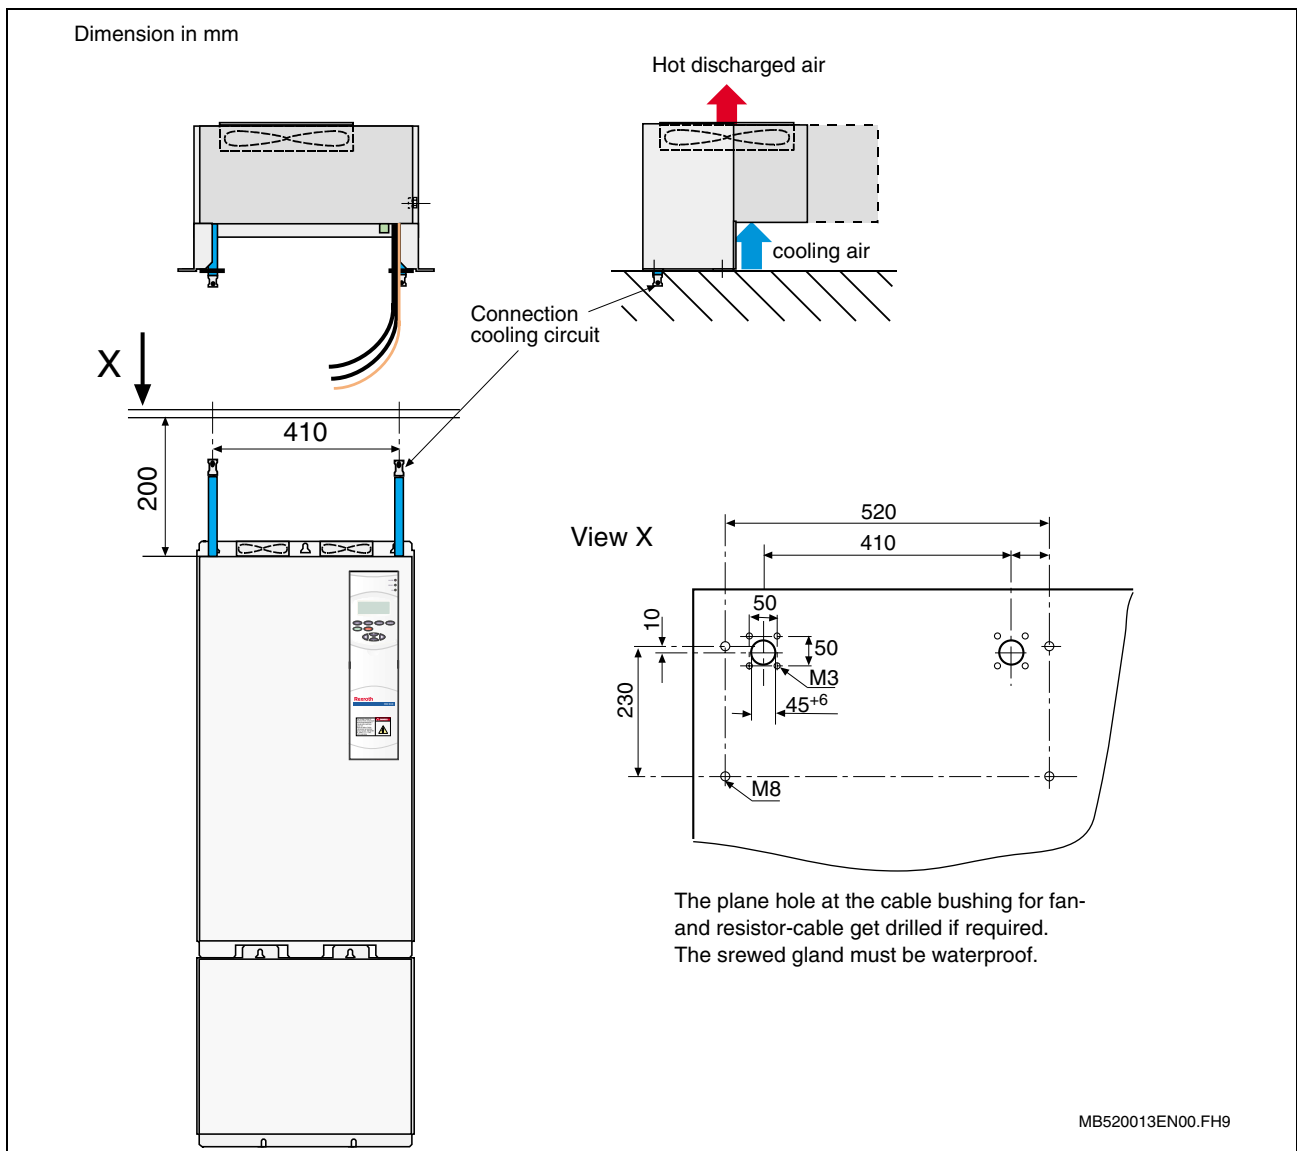
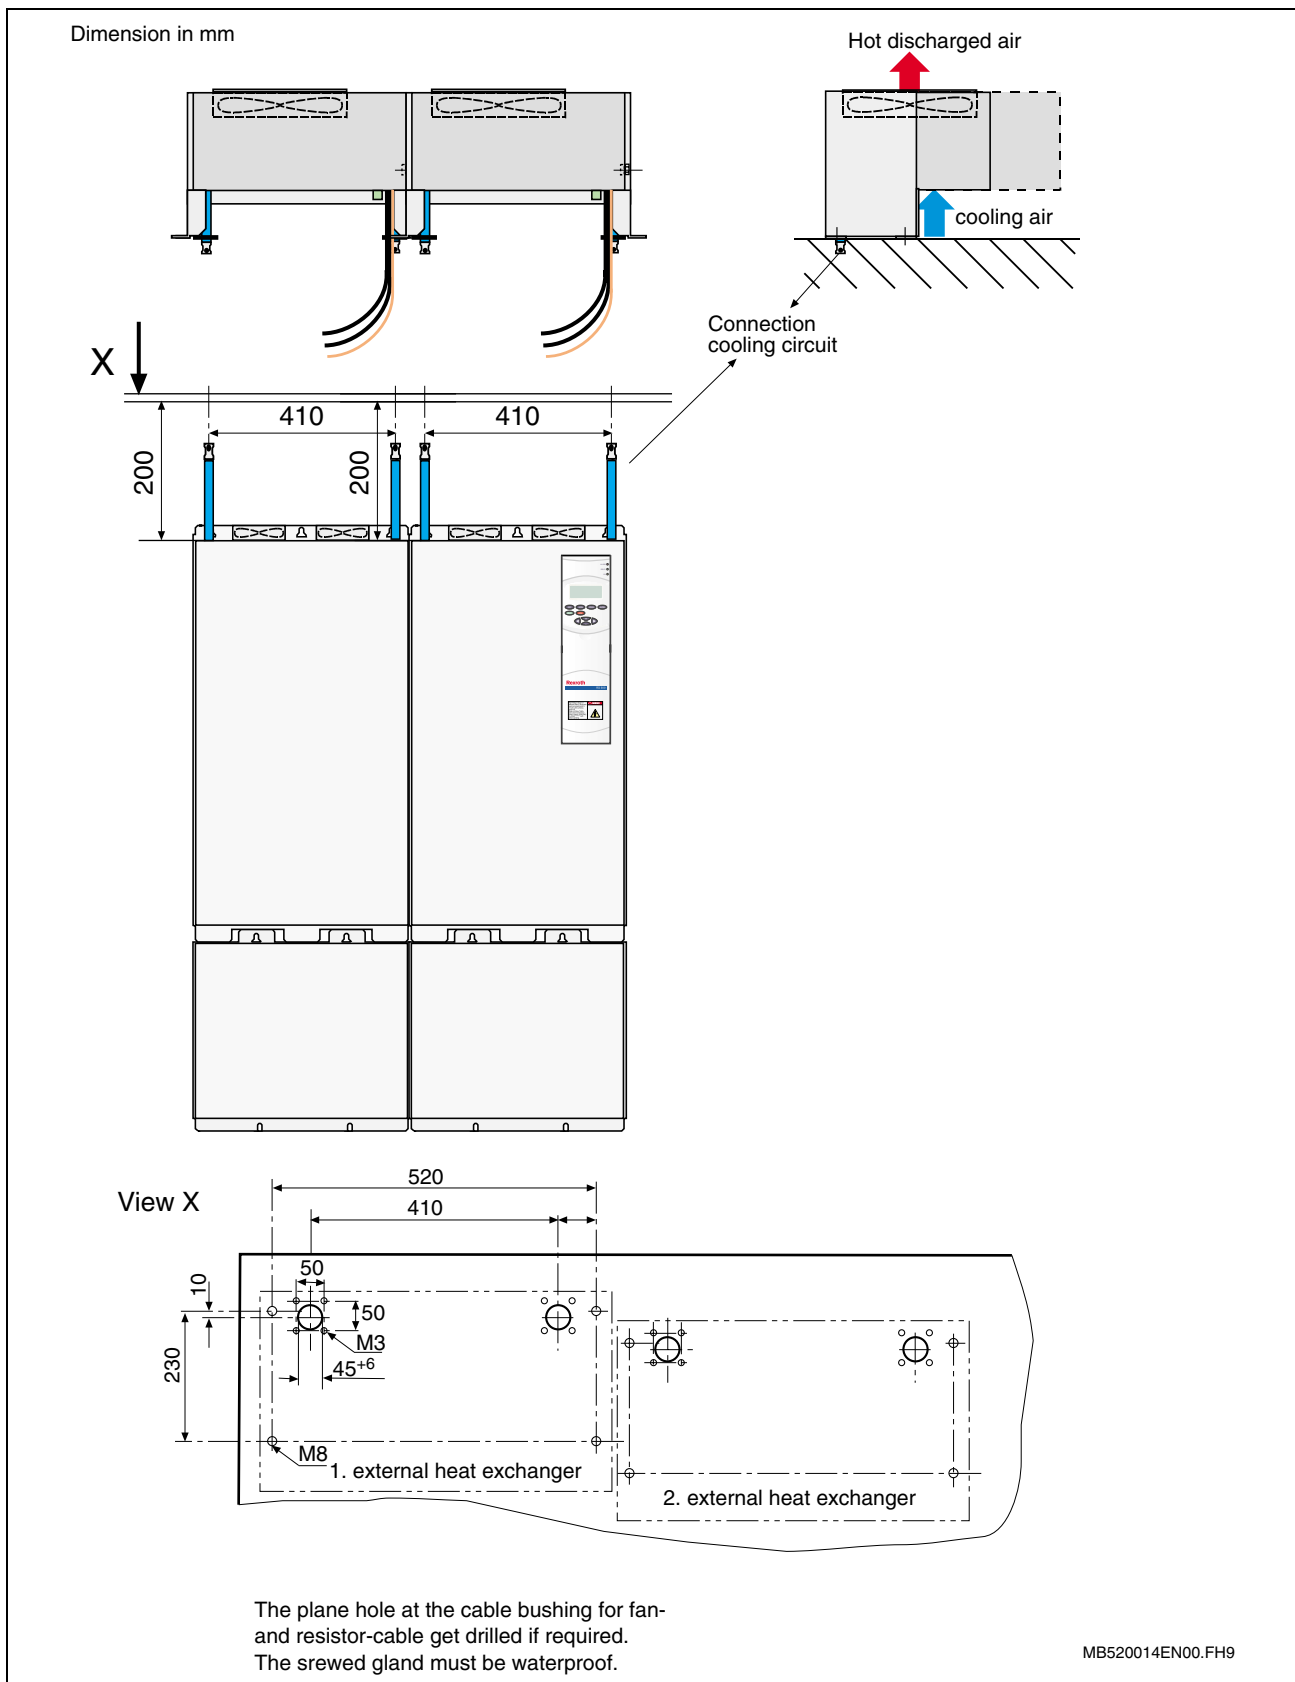

Fig.: 3-51 Dimension sheet for cabinet roof mounting, size class G
Fig.: 3-52 Dimension sheet for cabinet roof mounting, size class H
- Attach the external heat exchanger to the desired location. This can be mounted on the roof or wall of the cabinet. See Fig.: 3-51 , Fig.: 3-52 . Additional technical data are described in documentation DOK-RD500*-RD500*SUPPL-FKxx-EN-P (Accessories).